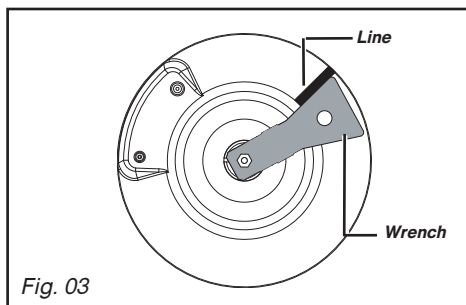

Fig. 03
In an existing system, a soft pipe fitted with clamps whose service (compliant with the XP D 36-110 standard) whose service life is five years may be used. It is necessary in this case to use an adaptor without forgetting to fit a sealing washer between the adaptor and the hob's elbow. (Fig. 03).
– Turn the wrench clockwise until the line appears on the other side (Fig. 03).